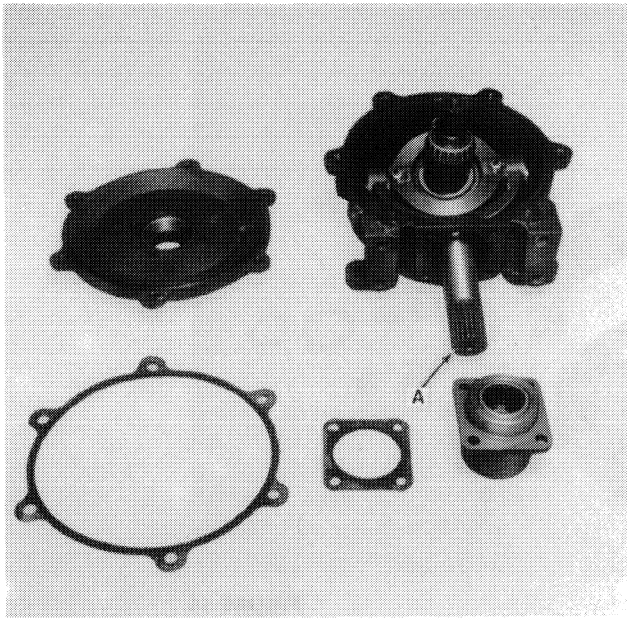

FIGURE 16
- Place the yoke and eccentric shaft into the gearbox housing as shown in Figure 16.
NOTE: Be certain the yoke is positioned correctly. The timing mark is shown at A, Figure 16, and is always located toward the cutter bar.